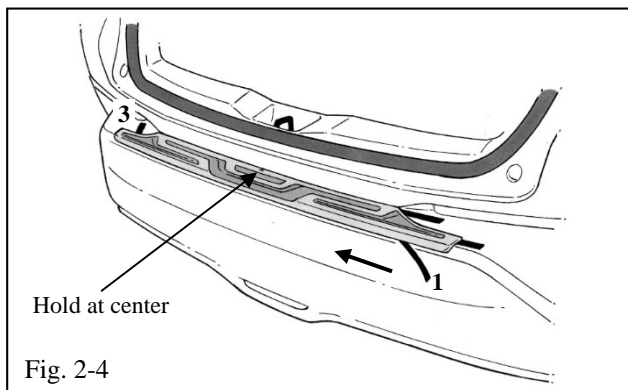

Fig. 2-4
- (d) Hold the part against the bumper profile at the center and tack the exposed tape liner **1** down and then liner **3** (Fig. 2-4).
- (e) While holding the part firmly down against the bumper, remove liner **1** (Fig. 2-4). Press firmly along the tape length.